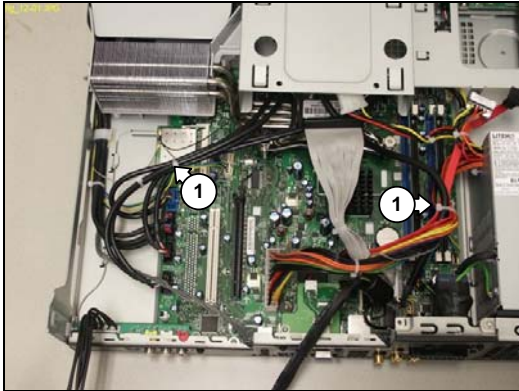

Figure 12.12-1
6. Remove the 2 cable ties (1) to allow some slack in the cables connected to the FP board. See Figure 12.12-1.